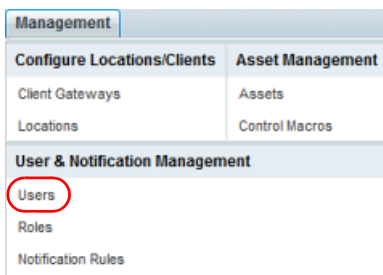

FIG. 293 Management > User & Notification Management > Users
- User accounts and user Properties are managed via options in the *User Management* page. To access this page, select **Users** under *User & Notification Management* in the Management menu (FIG. 293).